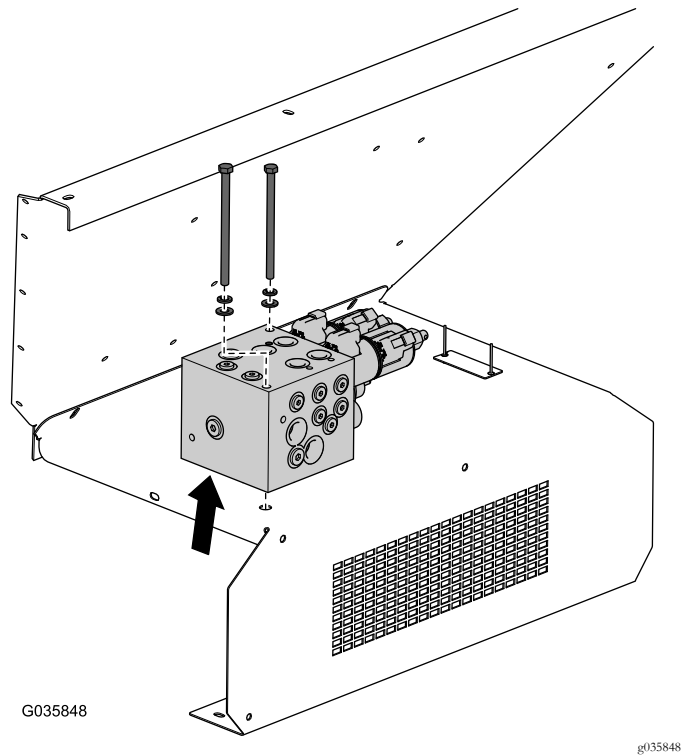

Figure 5
1. Remove the bolts and washers from the manifold block and retain them for later installation (Figure 5).
- Lift the manifold away from the rinse guard just enough to remove the existing rinse guard (Figure 5).